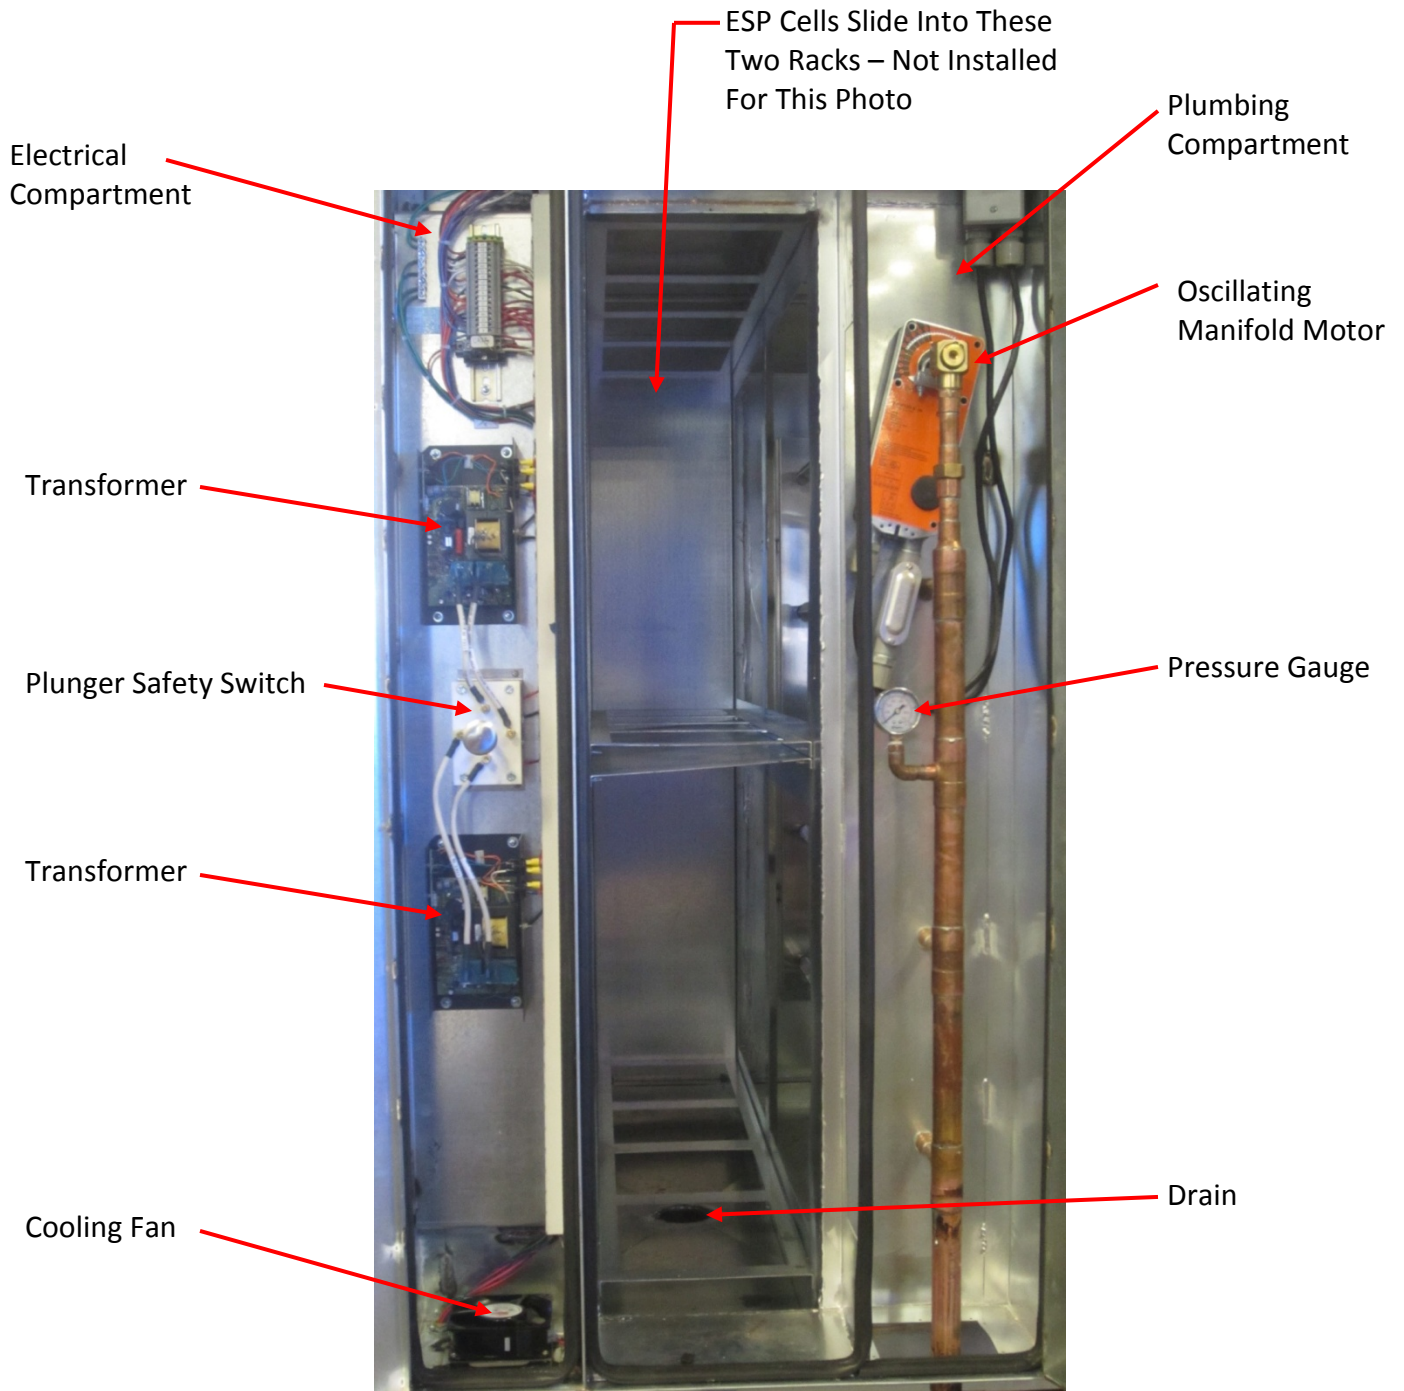
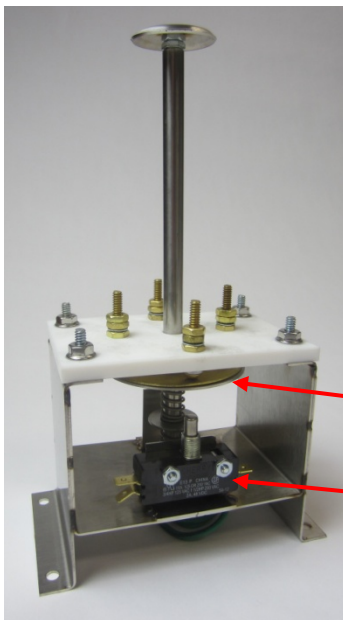

Figure 4-17-1
Figure 4-24-1
1. Open the Electrical Compartment door first (the smaller door) and then the Cell/Plumbing Compartment door. Opening the Electrical Compartment door releases the Plunger Safety Switch, shutting off power to the transformer by releasing the micro switch, and draining residual power from the transformer(s) by the Grounding Disc making contact with the brass grounding screws (Refer to Figure 4-17-1 and 4-24-2).
Proper voltage through the ESP Cells is essential for maximum smoke removal. There is one or more power supply Transformers located in the electrical compartment of the ClearAir unit (Refer to Figure 4-17-1). The quantity is dictated by the number of Cells, but typically there is one transformer(s) for every row of Cells. The transformer(s) outputs 5,000 volts DC to the repelling plates of the Cell and 10,000 volts DC to the ionizing wires. The voltage of each transformer is monitored by a green status light located on the main Control Cabinet, and on the electrical compartment door of the ClearAir unit (Refer to Figure 3-2-1). A solid green light indicates that the ESP Cells are operating properly.
1. Open the Electrical Compartment door first (the smaller door) and then the Cell/Plumbing Compartment door. Opening the Electrical Compartment door releases the Plunger Safety Switch, shutting off power to the transformer by releasing the micro switch, and draining residual power from the transformer(s) by the Grounding Disc making contact with the brass grounding screws (Refer to Figure 4-17-1, 4-24-1 and 4-24-2).
1. There is one or more Plunger Safety Switch located in the Electrical Compartment (Refer to Figure 4-17-1 and 4-24-1). The Plunger Safety Switch, when released by opening the Electrical Compartment door, shuts off the power to the power supply transformer and bleeds power from the transformer, by the Grounding Disc making contact with the brass grounding screws (Refer to Figure 4-17-1, 4-24-1 and 4-24-2). There are two potential areas that can cause failure of the Plunger Safety Switch. The first is a mechanical failure and the second is a failure of the micro switch (Refer to Figure 4-24-1). To test for these two situations proceed as follows: